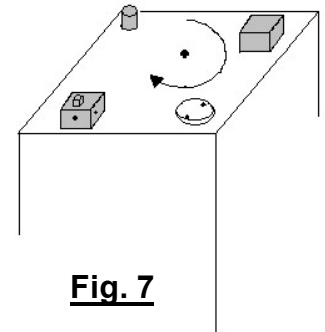

Fig. 7
4. Check that the rotation of the shaft coincides with that of the arrow shown on the top of the unit shown in figure 7.